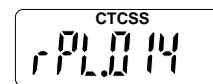

Figure 4-16 .
- 1 From the frequency mode, press and hold  until the LCD displays ‘rPL.’ followed by the active Receive PL code number (takes about 3 seconds). In the following example (Figure 4-16), the Receive PL/DPL code is 014.